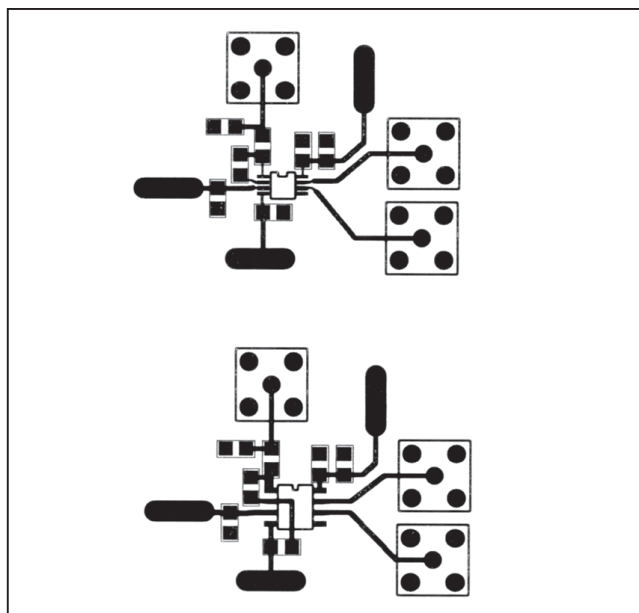

Figure 5. MAX961 PCB Layout
- 5) Refer to Figure 5 for a recommended circuit layout.